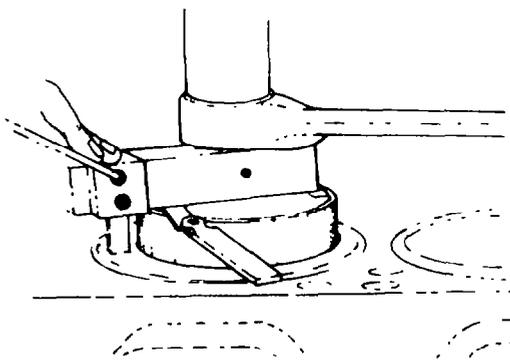

Fig. 23 — Setting Cutting Depth
- a. Insert the cylinder head grooving tool J-22877, backwards so that the cutting bit comes in contact with the face of the head rather than the fire ring groove. Insert two 0.20 mm (0.008 in.) feeler gauges between the base and the bit holder (see fig. 23). Loosen the bit holding screw and allow the bit to rest on the face of the cylinder head. Tighten the bit in this position and remove the feeler gauges.